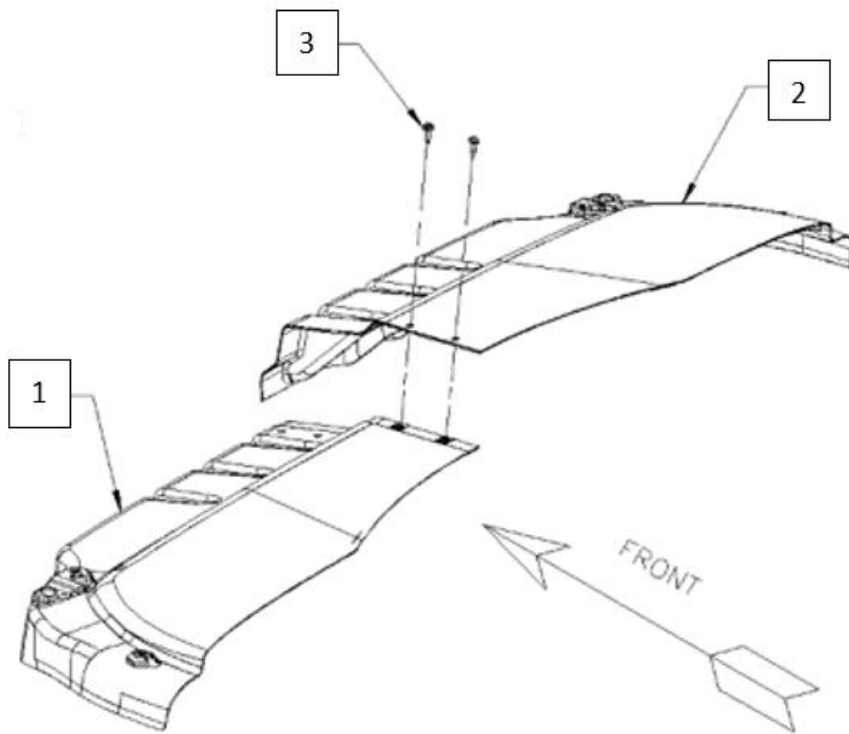

Figure 2: Roof extension
6. Prep the left and right extensions (Figure 2, Items 1&2) by connecting together with the 2 bolts shown in (Figure 2, Item 3).